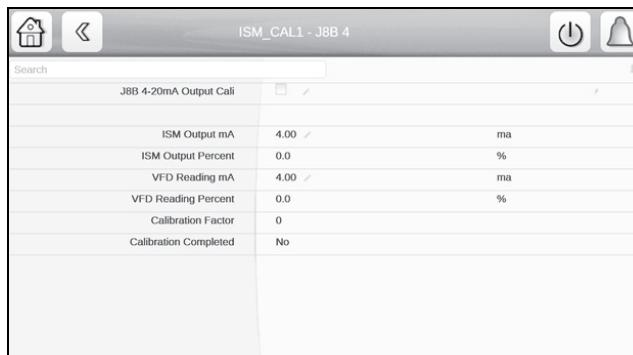

Fig. 46 – ISM_CAL1 Screen
- Select J8B 4-20mA Output. The ISM_CAL1 screen is displayed. See Fig. 46.